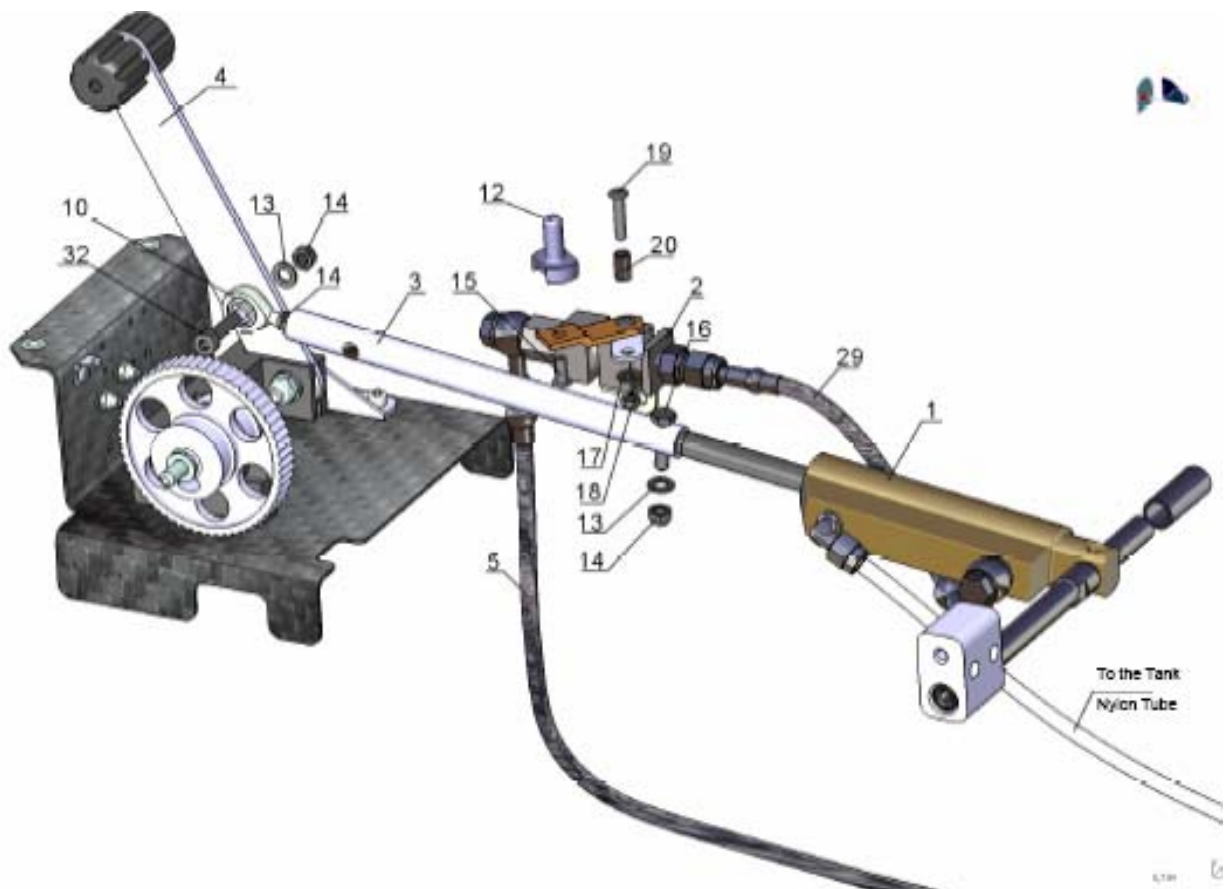
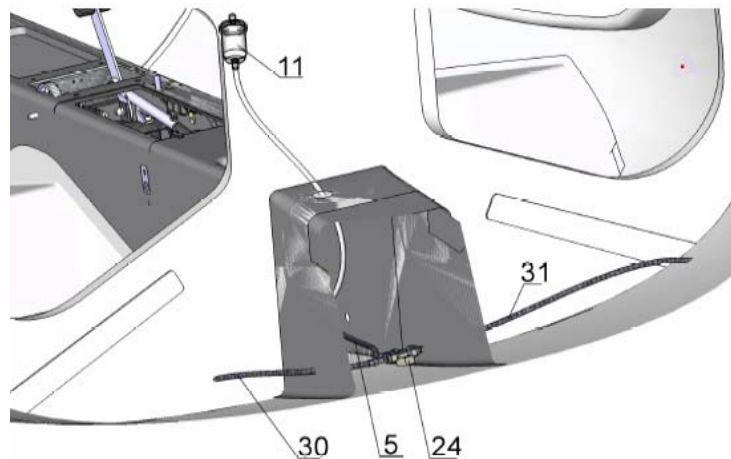
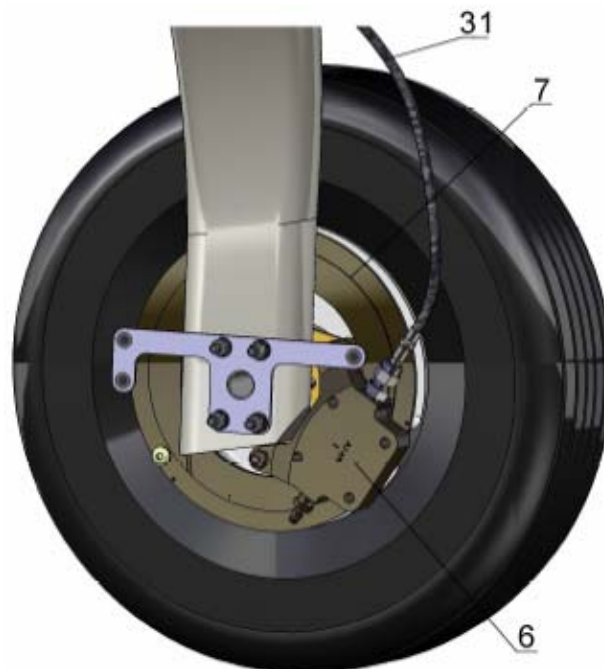
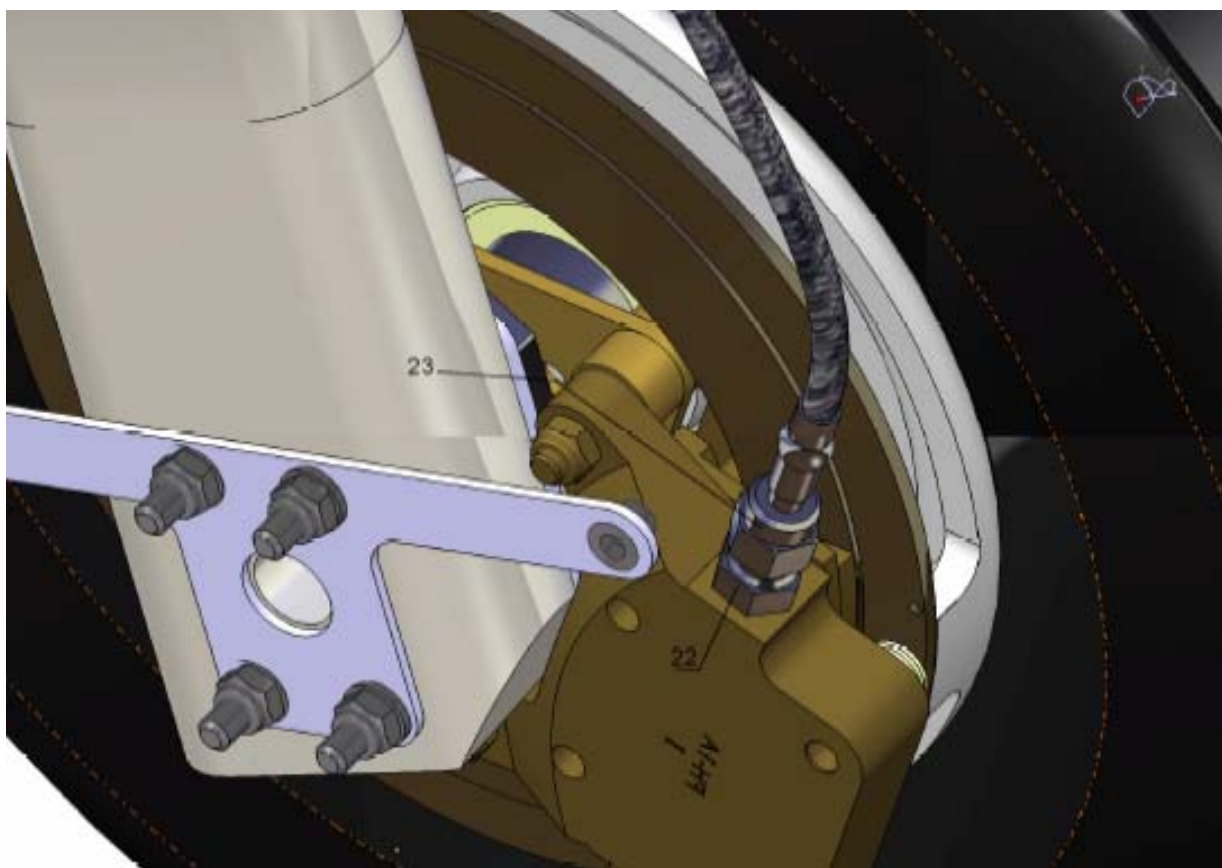

Fig 1
Fig 2
Fig 3
Fig 5
- main cylinder (MC-4CT) item 1 fig.1;
- brake valve item 2 fig.1,
- brake rode item 3 fig.1,
- handle activation, item 4 fig.1,
- brake tubes items 5 fig.1, items 29 fig. 1, items 30,31 fig.2;
- brakes item 6 fig.3;
- brake disk item 7 fig.3.
- 1) Check level of brake fluid inside of the tank item 11 fig.2 (has to be not less $\frac{1}{2}$ of tank) visually, add fluid if necessary;
- 2) Check brake handle activation for play (up to 2 sm), if necessary adjust play with rod end item 10 fig.1;
- 3) Check for sign of leakage nearby brake calipers, brake lines connection (fig.1, fig.2, fig.3). Replace connectors and sealing washers if necessary;
For caliper, brake pads, brake disk replacing the main wheel needs to be removed. Follow requirements in compliance with Technical Service Guide MATCO mfg. Brake system assembling is shown on fig.1, fig.2, fig.5.